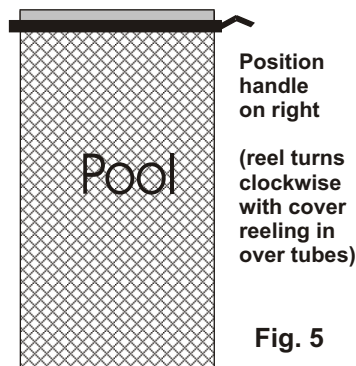

Fig. 5
- The reel is designed to turn **clockwise** with the cover coming **over the top**. The handle end will be placed on the **right** end of the reel when facing away from the main length of the pool (see Fig. 5).